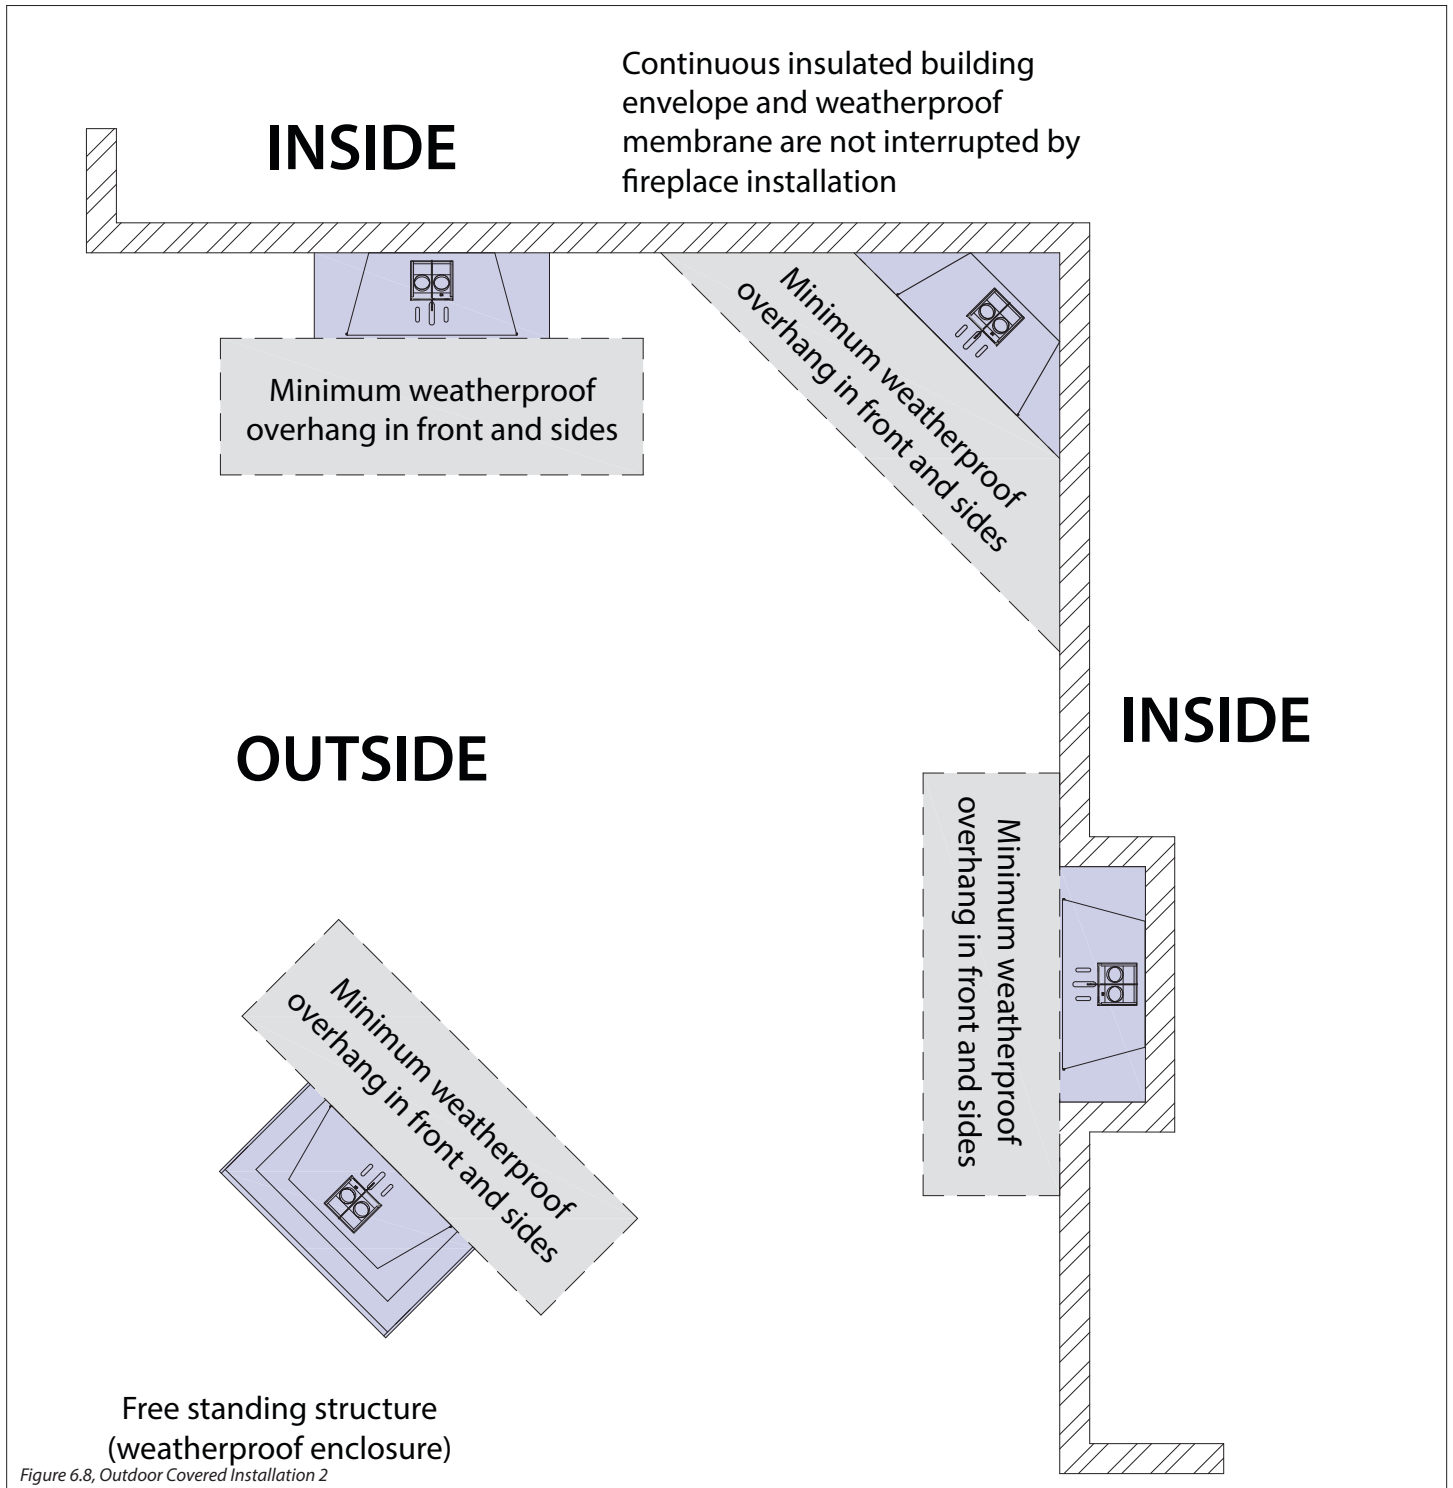

Figure 6.8, Outdoor Covered Installation 2
- The continuous insulated building envelope and weatherproof membrane are not to be interrupted by fireplace installation. See Figure 6.8 on the following page.